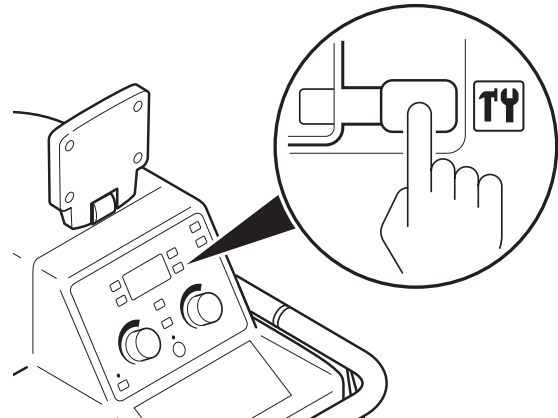

Figure 17 To Access System Setup
3. From the control panel, push and hold the push button until the SYSTEM SETUP screen appears (Figure 17).